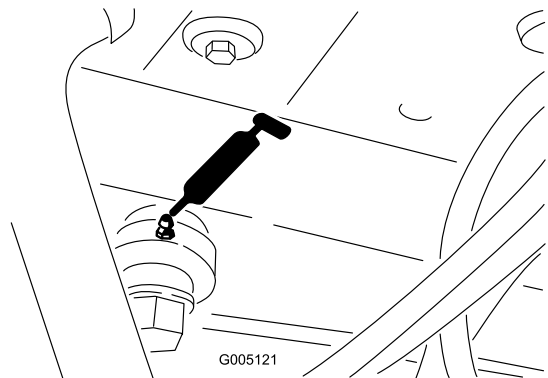

Figure 33
- Steering-cylinder end (Figure 33)